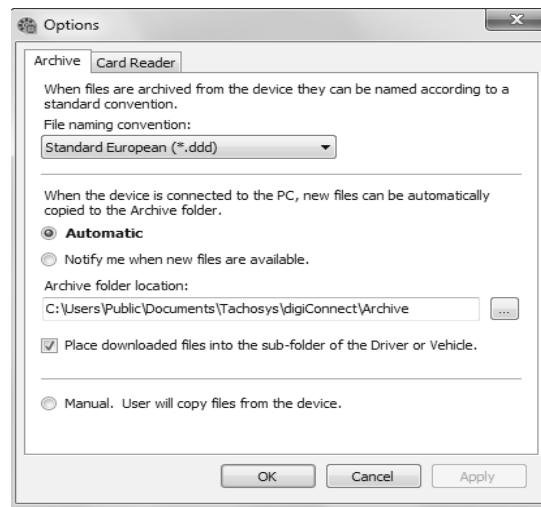

Fig 9.
You may change the Driver Card and Vehicle Unit file naming conventions to suit your country or analysis software. Simply select the most appropriate option from the drop down menu in software Options (see Fig 9.).
1. Select the Archive tab at the top of the pop up window (see Fig 9.).